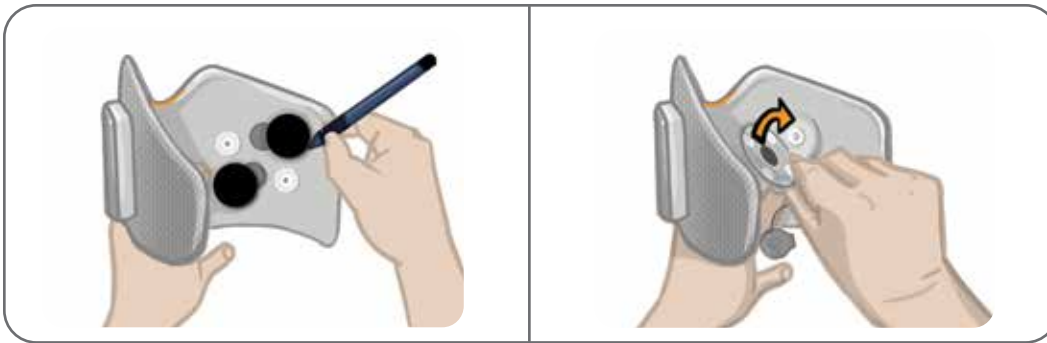

Figure 11-5: Mark Position of Electrode Base (Left)
1. Remove the wire concealers and mark the position of the used electrode bases on the cuff liner with a permanent marker. See Figure 11-5.
2. Disconnect the electrode base snaps from the plug holes. See Figure 11-5.